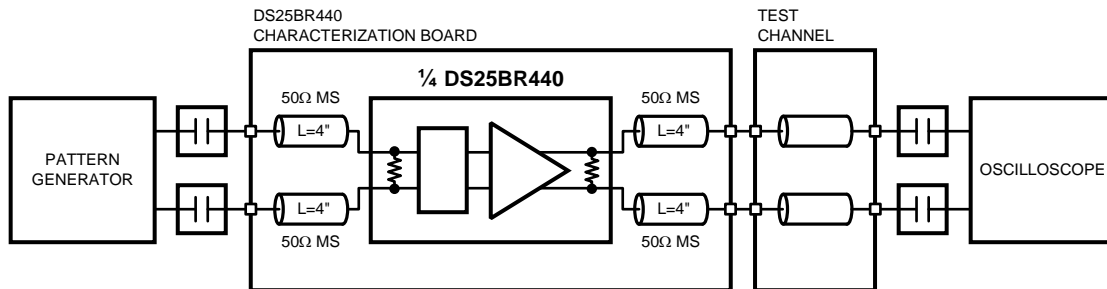
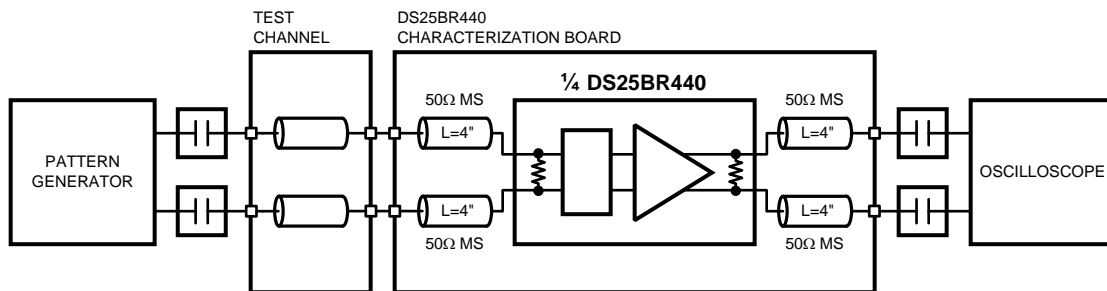
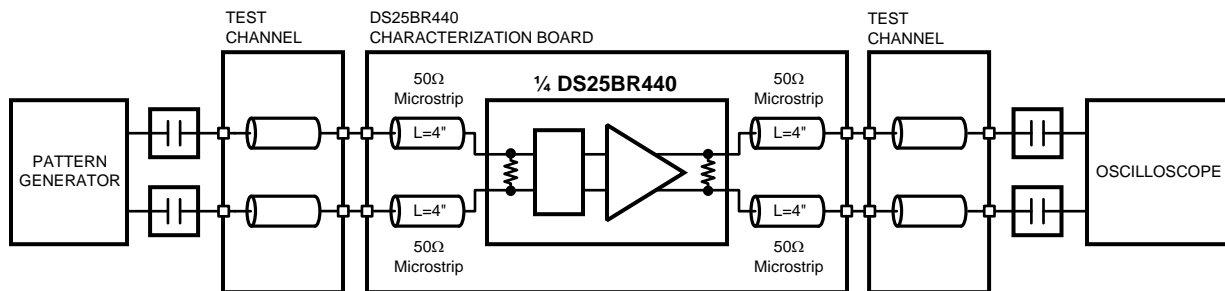
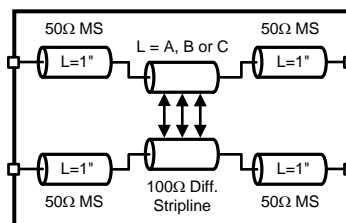

Figure 6. Pre-emphasis Performance Test Circuit
Figure 7. Equalization Performance Test Circuit
Figure 8. Pre-emphasis and Equalization Performance Test Circuit
Figure 9. Test Channel Block Diagram
| JITTER PERFORMANCE WITH EQ = Off, PE = On (3) (Figure 6, Figure 9)  |   |   |            |      |      |             |
| JITTER PERFORMANCE WITH EQ = On, PE = Off (11) (Figure 7, Figure 9) |   |   |            |      |      |             |
| JITTER PERFORMANCE WITH EQ = On, PE = On (11) (Figure 8, Figure 9)  |   |   |            |      |      |             |